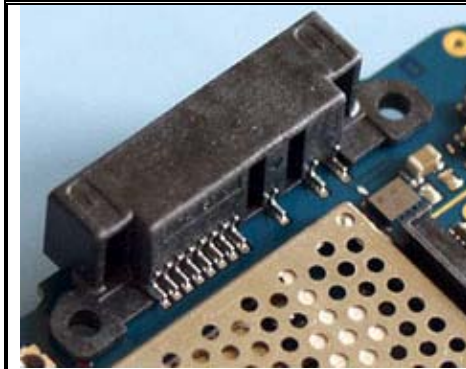

Fig. 6.1
- Check if the system connector X2302 (*Fig. 6.1*) is mechanically damaged, dirty or oxidized. Replace it if necessary.
- Check if the system connector X2302 (*Fig. 6.1*) is mechanically damaged, dirty or oxidized. Replace it if necessary